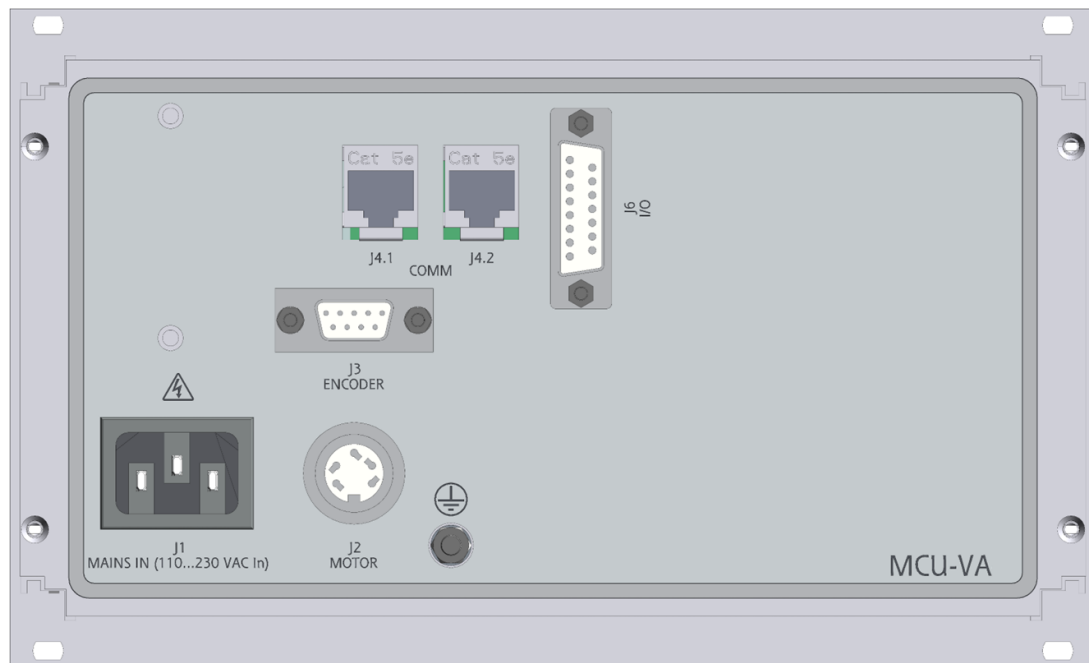

Fig. 5-5 MCU-VA Rear Panel, J1 - Main power, J2 - Stepper motor, J3 – Encoder, J4.1/4.2 – Communication, J6 – Input/Output
2. With the MCU-VA-MOPI powered OFF connect to the appropriate sockets indicated in Fig. 5-5: